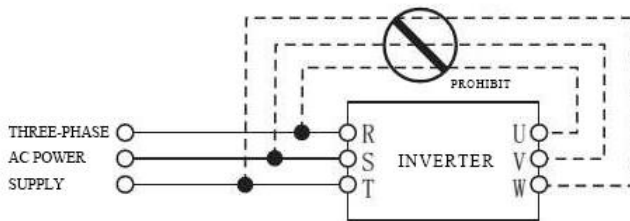

figure 1-2
- It is strictly forbidden to connect the AC power supply to the inverter output terminals U , V , W , otherwise it will cause damage to the inverter, as shown in Figure 1-2 .